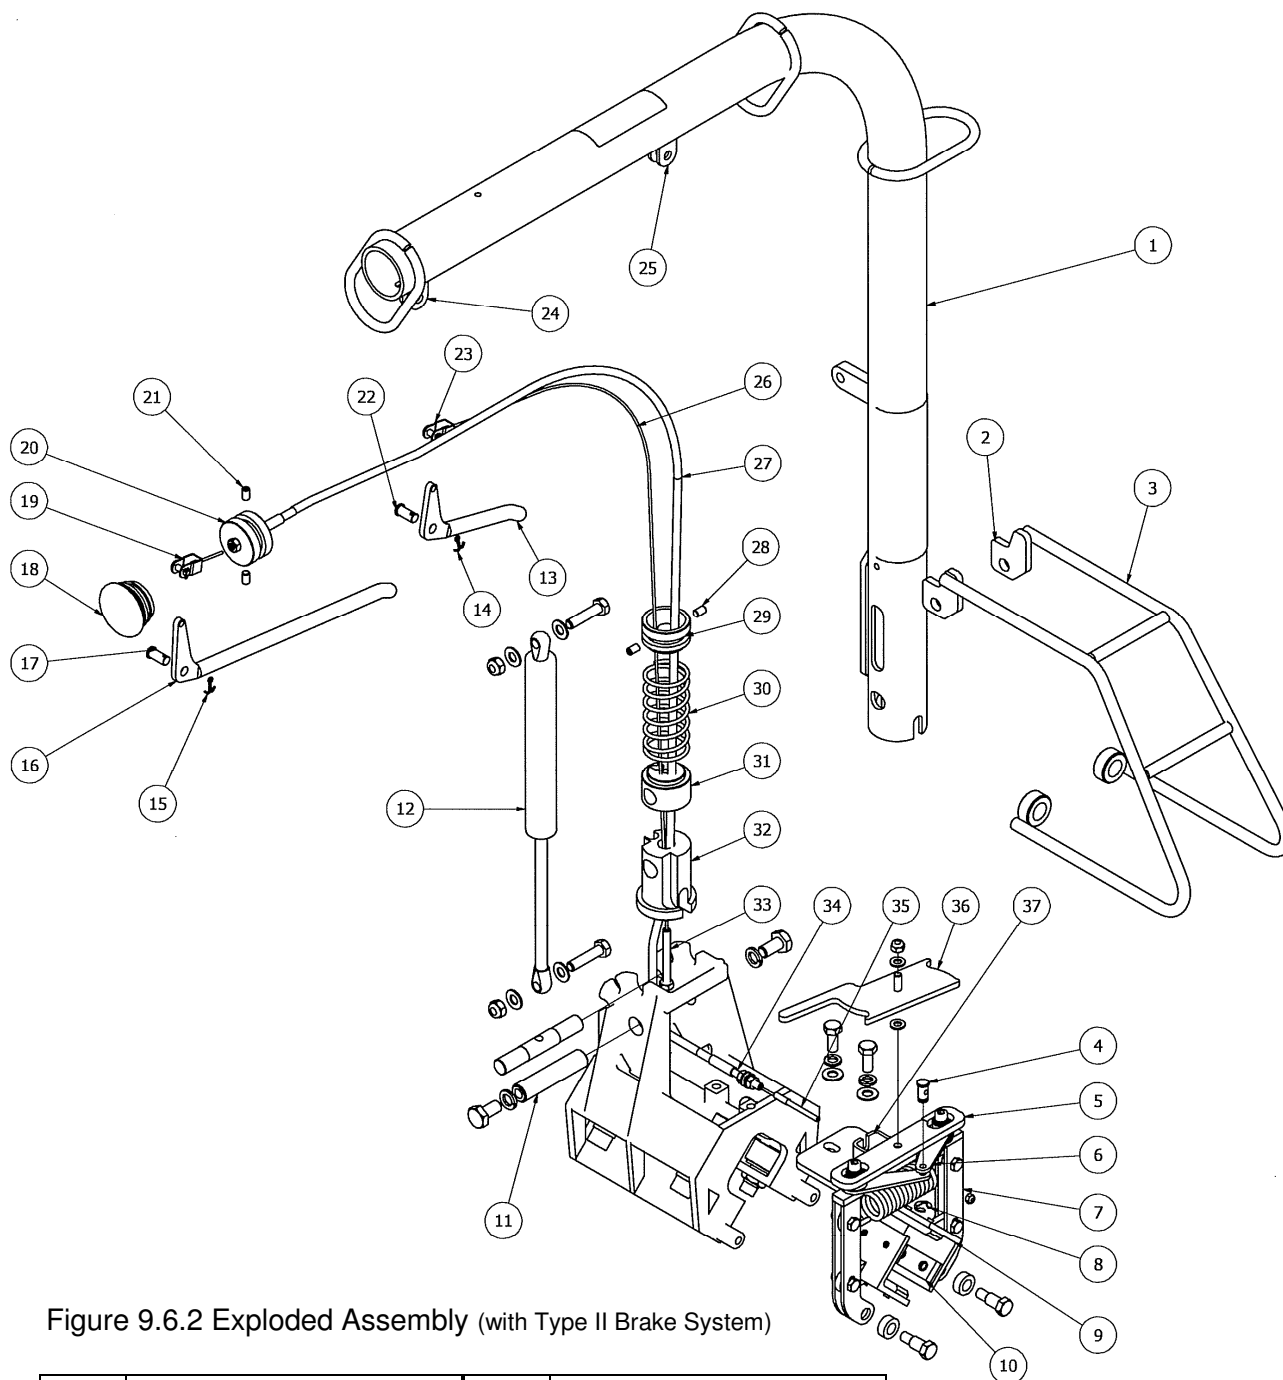

Figure 9.6.2 Exploded Assembly (with Type II Brake System)
See Figure 9.6.2.
The Brake System is moved into its released position by activating the Brake Lever. The Brake Lever is mounted at a convenient position on the TRAM Arm and is activated by clasping the lever and pulling it up against the TRAM Arm. The lever action pulls a mechanical cable which runs from the Brake Lever down through the TRAM Arm to the Brake Mechanism. The end of the mechanical brake cable is attached to two pivoting arms and as the brake cable retracts the arms pivot to extend the mechanical coil spring and open the brake shoes, thus releasing the closing force of the brake pads against the TRAM Rail. Figure 9.6.2 shows an exploded assembly view of components referenced in the procedures in this Chapter.
Note! Refer to Figure 9.6.2 throughout this procedure for identification of components.
25. Remove the Split Pin and Clevis Pin from the end of the Brake Arms and discard. See Figure 9.6.2.